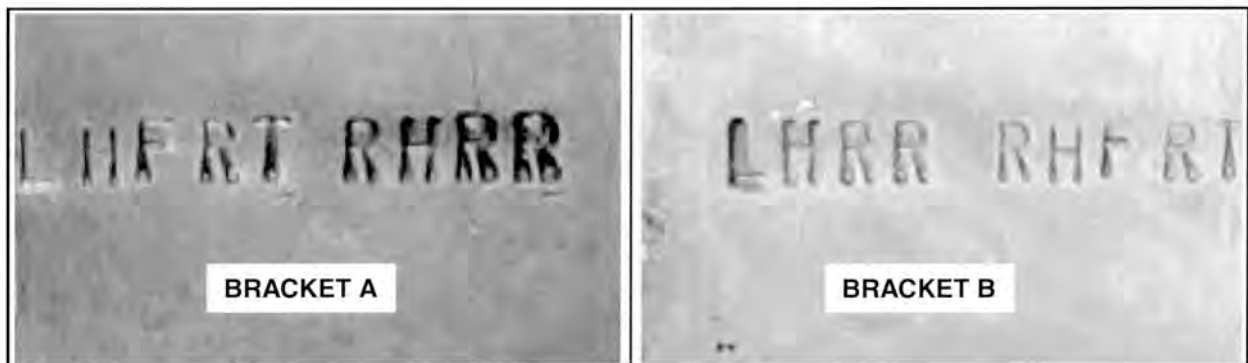

FIGURE 2
5. Brackets are stamped "LHFRT RHRR" and "LHRR RHFRT". Bracket A can be used on the Left-Hand Front or Right-Hand Rear of the axle. Bracket B can be used on the Left-Hand Rear or the Right-Hand Front of the axle. See Figure 2.